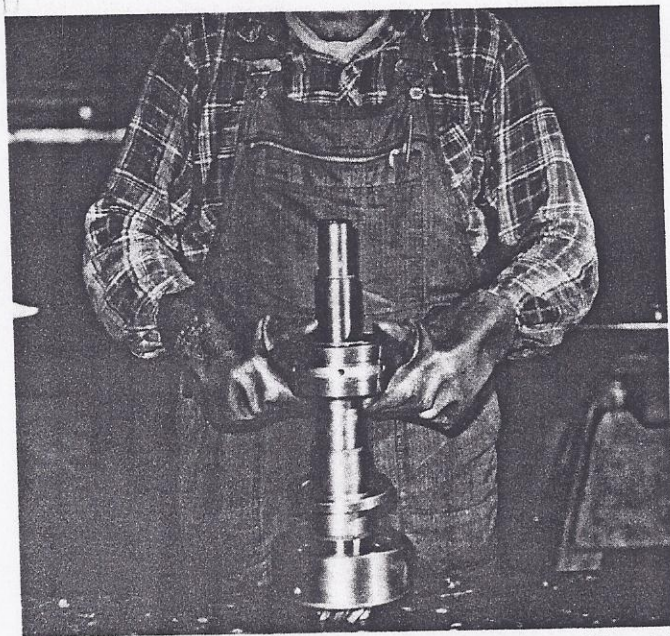

Fig. 19
Slide on shaft spacer (114), internal locknut (125) and allow to rest loosely on pinion end bearing, fig. 19.